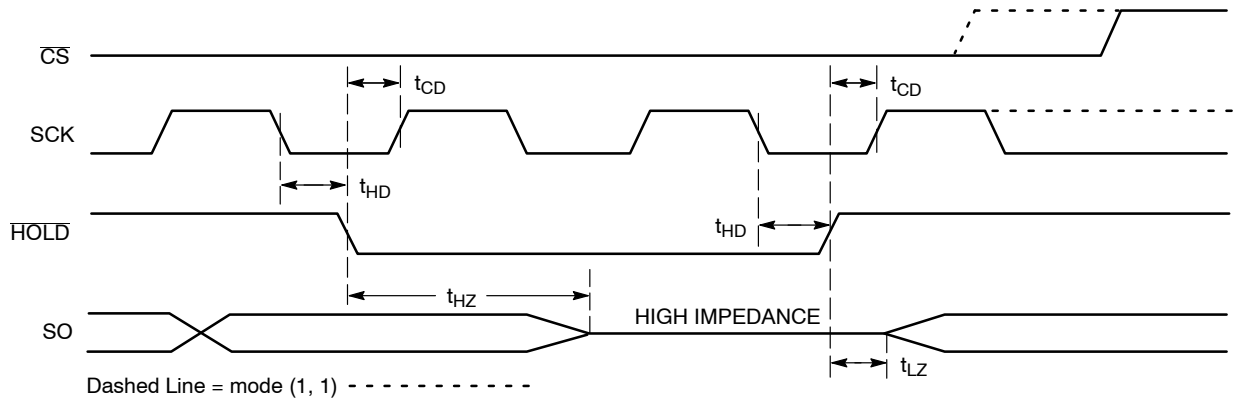

Figure 11. $\overline{\text{HOLD}}$ Timing
The $\overline{\text{HOLD}}$ input can be used to pause communication between host and CAV25320. To pause, $\overline{\text{HOLD}}$ must be taken low while SCK is low (Figure 11). During the hold condition the device must remain selected ($\overline{\text{CS}}$ low). During the pause, the data output pin (SO) is tri-stated (high impedance) and SI transitions are ignored. To resume communication, $\overline{\text{HOLD}}$ must be taken high while SCK is low.